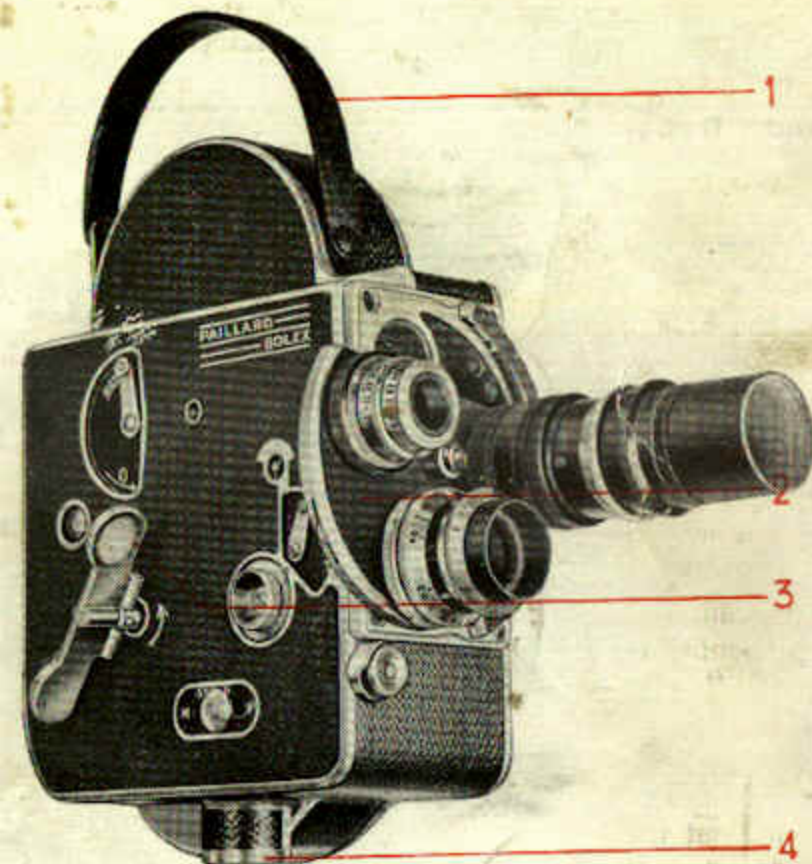

Fig. 1
- d. Rewind the motor to the full, either by means of rewinding handle 25 or of winding key 3. Rewind in the direction shown by the arrow in Fig. 1. Winding key 3 screws on to the thread covered by chromium-plated screw 20, which can be unscrewed by means of a coin.